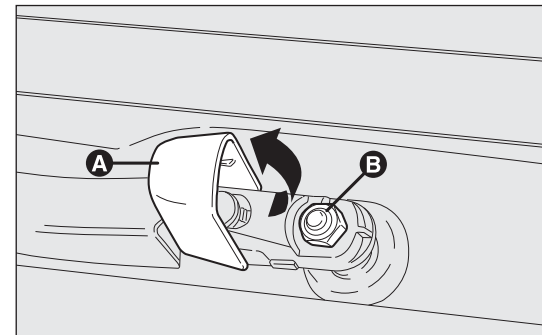

fig. 213
**Changing the rear window wiper blade fig. 213**